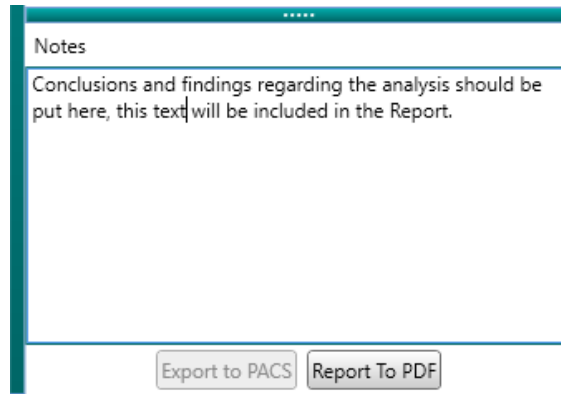

Figure 6-11: Export to PACS and Report to PDF buttons seen in the Analysis tab below the Notes and Patient Information sections
**NOTE:** The Export to PACS button will be disabled (Figure 6-11) if a PACS connection has not been setup.